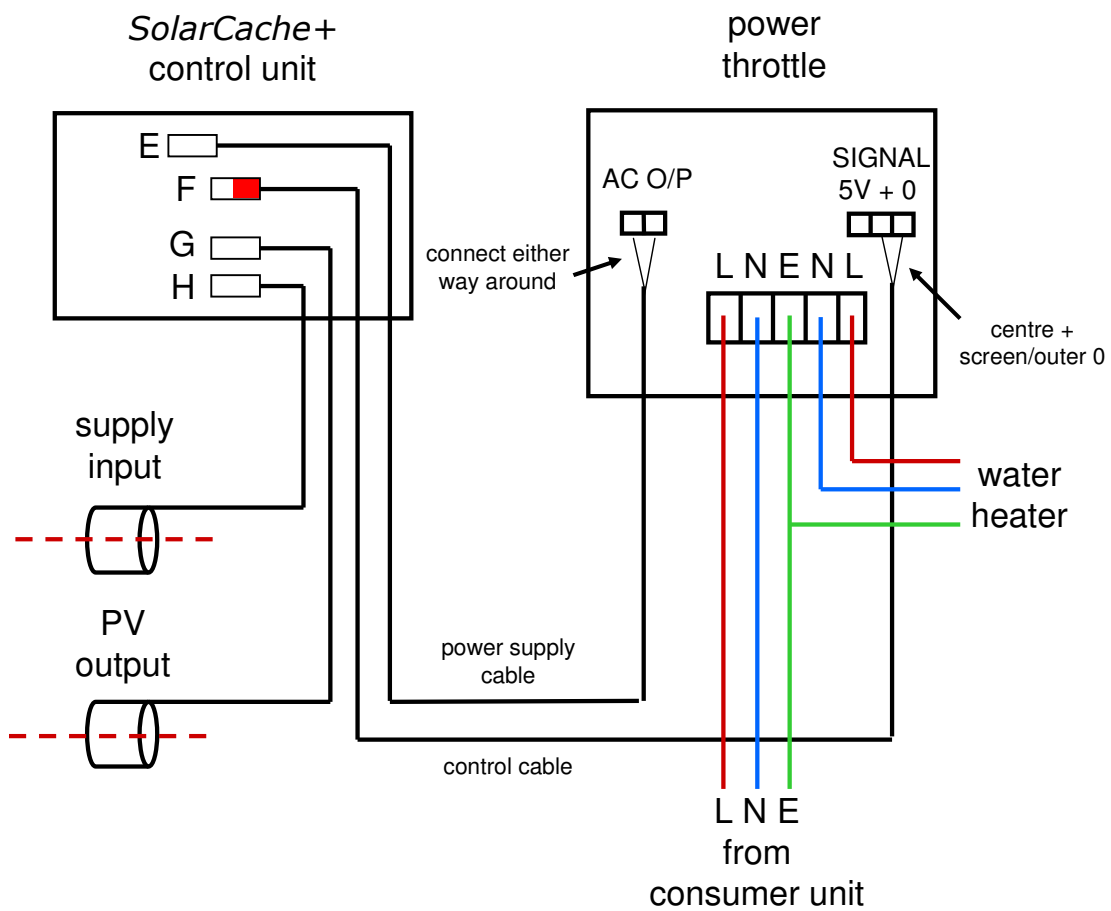

Figure 2
(e) Wiring & Connections (see the wiring diagrams Figures 2 and 3 below)
10. A length of 5-core 1.5mm cable is provided together with PVC cable glands. Use this between the consumer unit and the power throttle, intercepting the dedicated water heater circuit. Make the connections as shown in the two wiring diagrams, Figures 2 and 3 below. At this stage, please leave both current transformers plugged in but unplugged.